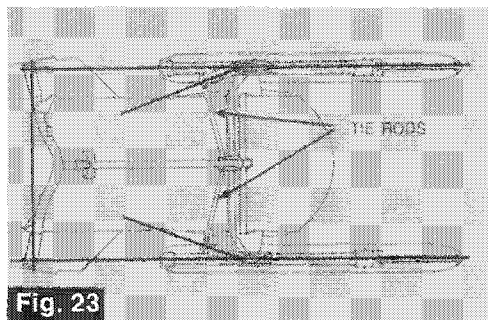

Fig. 23
2. Turn one or both tie rods until ski alignment is corrected. (See Fig. 23).